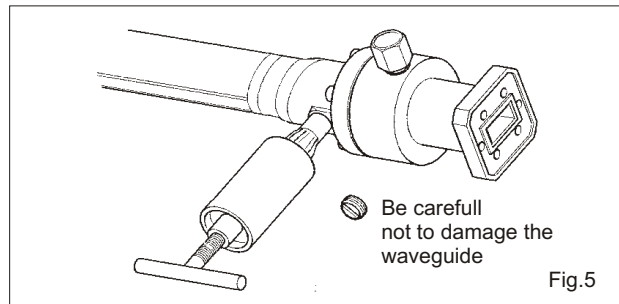

Fig.5
**Montage der Armatur, Fig.5**
**Plast 2000 einspritzen, Fig. 5**
**Final Assembly, Fig.5:**
**Injection of Plast 2000, Fig.5:**
For gas connection (17), Fig. 5